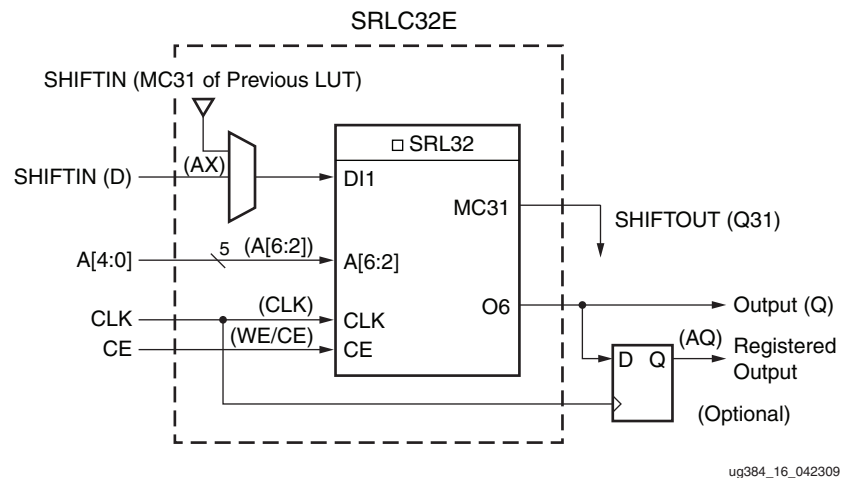

Figure 17: 32-bit Shift Register Configuration
The write operation is synchronous with a clock input (CLK) and an optional clock enable (CE). A dynamic read access is performed through the 5-bit address bus, A[4:0]. The LSB of the LUT is unused and the software automatically ties it to a logic High. The configurable shift registers cannot be set or reset. The read is asynchronous; however, a storage element or flip-flop is available to implement a synchronous read. In this case, the clock-to-out of the flip-flop determines the overall delay and improves performance. However, one additional cycle of clock latency is added. Any of the 32 bits can be read out asynchronously (at the O6 LUT outputs) by varying the 5-bit address. This capability is useful in creating smaller shift registers (less than 32 bits). For example, when building a 13-bit shift register, simply set the address to the 13th bit. Figure 17 is a logic block diagram of a 32-bit shift register.